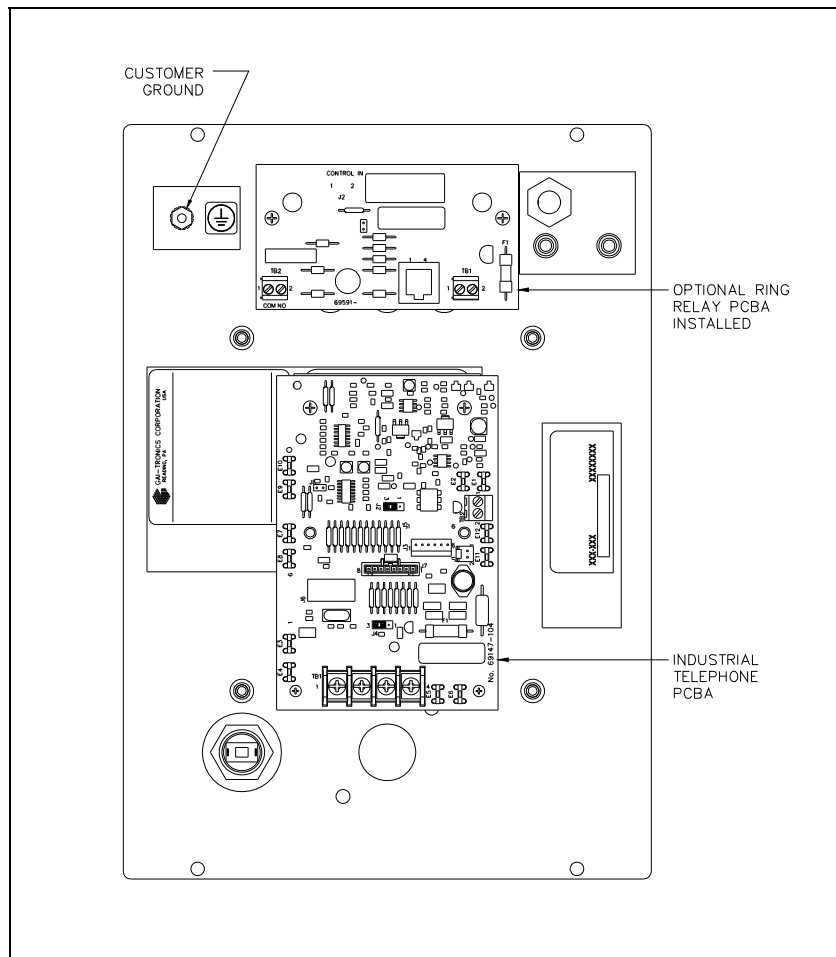

Figure 1. Interior of the Front Panel
3. Install the two 6-32 × 1.00 inch F/F standoffs (provided) onto the two weld studs on the back of the panel. See Figure 1.
4. Align the Ring Relay PCBA with the two standoffs. Make note of the PCBA orientation in Figure 1.
4. Align the Ring Relay PCBA with the two standoffs. (Note the PCBA orientation in Figure 1).